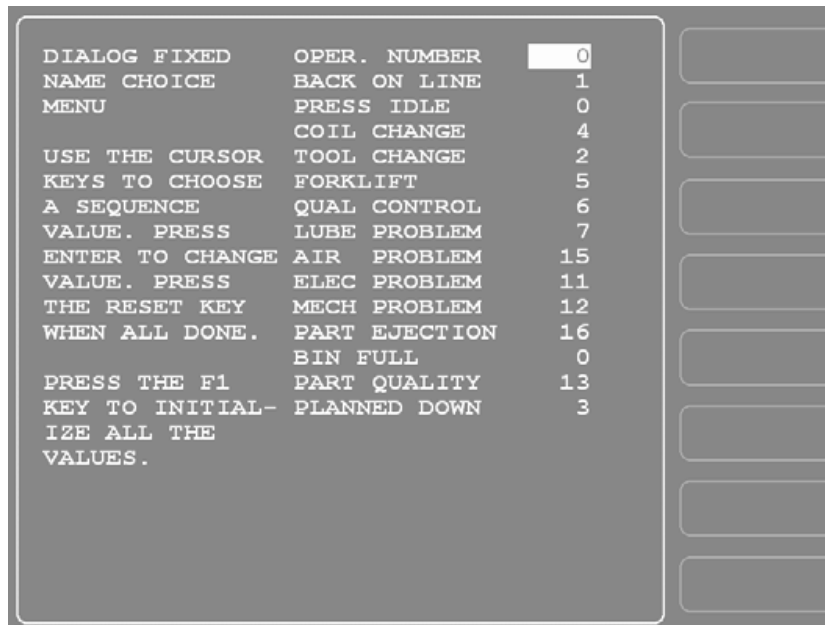

Figure 2 - Dialog Fixed Name Choice Menu
When you select the SET CANNED NAMES item on the Set Communications Menu, the Dialog Fixed Name Choice Menu (see Figure 2) appears. This menu allows you to select the “Canned” names that will appear on the Dialog Menu. “Canned” names are downtime reasons whose text has already been programmed into the SmartPAC. You can select up to 14 of these pre-programmed entries for inclusion in the Dialog Menu.
1. On the Set Communications Menu, highlight the SET CANNED NAMES item, using the cursor keys, and press ENTER. The Dialog Fixed Name Choice Menu (see Figure 2) appears with the cursor resting in the OPER. NUMBER field.